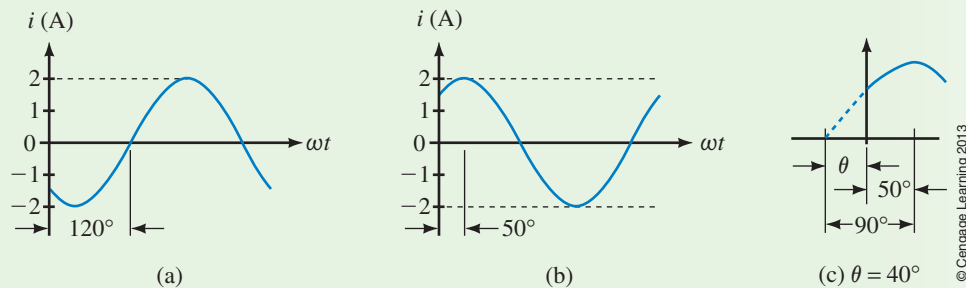

FIGURE 15-33
- a. Determine the equation for the waveform of Figure 15-33(a), given $f = 60$ Hz. Compute current at $t = 4$ ms.
- b. Repeat (a) for Figure 15-33(b).